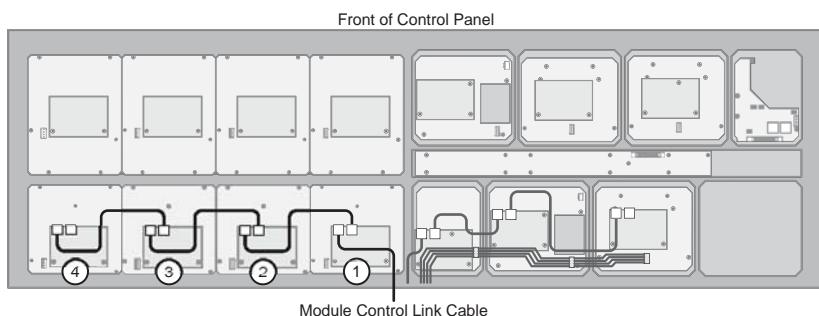

Figure 8 Module Control Link Cable — Vision 2X
1. Connect and secure the existing **Module Control Link Cable** to the **PREV** port on the first module ① (**Figure 8**). This CAT5e cable with an RJ-45 connector on either end is already installed in the control panel.